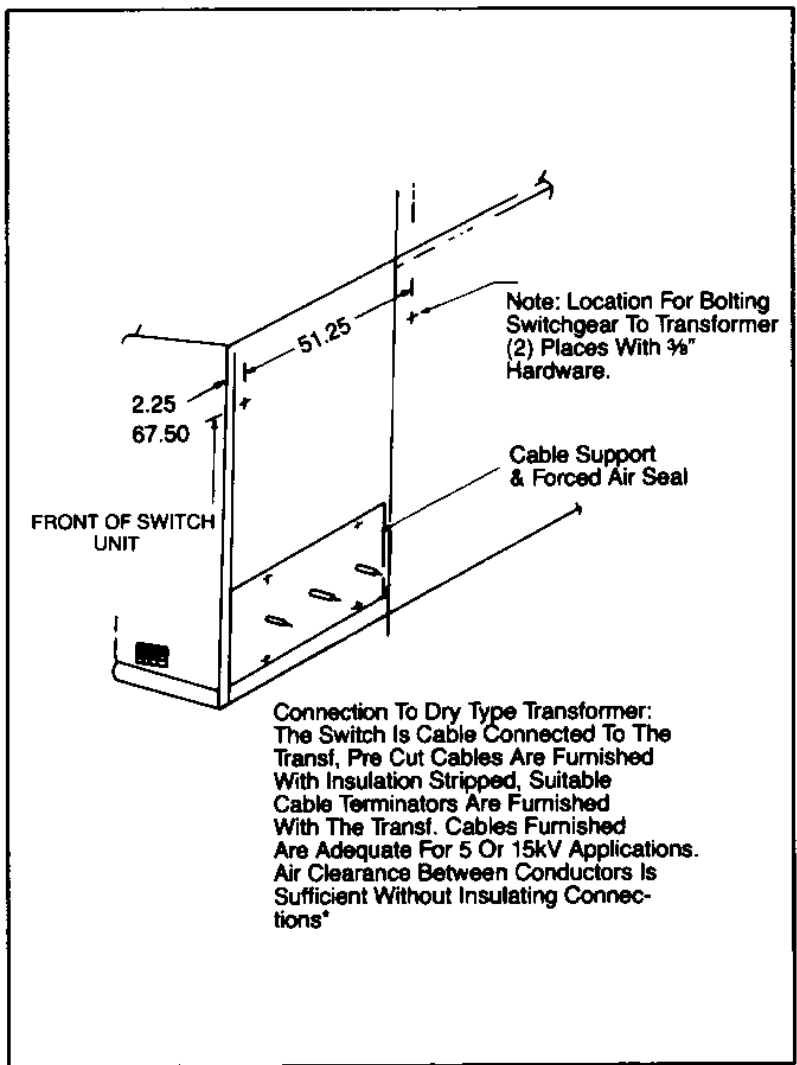

Figure 5. Bolting Procedure for Ventilated Dry Transformers
Figure 5 shows location of bolt holes to be used for this purpose. Two holes are provided on load interrupter switch units; three holes are in-line with captive nuts provided on the vent dry transformer frame and are "plugged" with .38-16 hardware prior to shipment. To connect the transformer to the switchgear the procedure is:
1. Remove .38-16 hardware from bolt holes shown in Figure 5; (Note that this hardware is hex head and all other hardware holding side plates in place is flat head type). Save all hardware except for hex head nut.